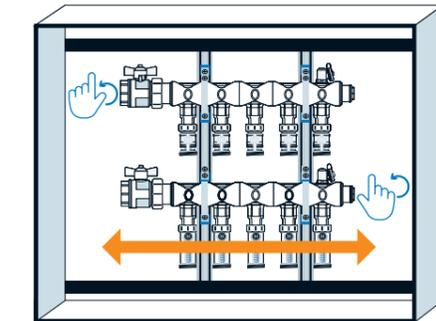

Figure 7: Square and level manifold assembly
5. Move manifold assembly back to square and level (see **Figure 7**).